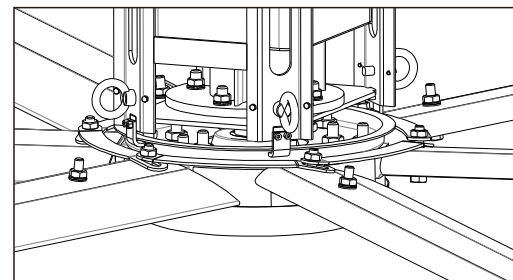

fig4.9.2/图4.9.2
4.9.2 Attach the 6 pcs safety retainer on the root of the fan to connect each blade together. (fig4.9.2)
将6片扇叶连接片按照顺序，交替对齐并重叠放置，然后用螺栓将扇叶根部固定。(如图4.9.2)